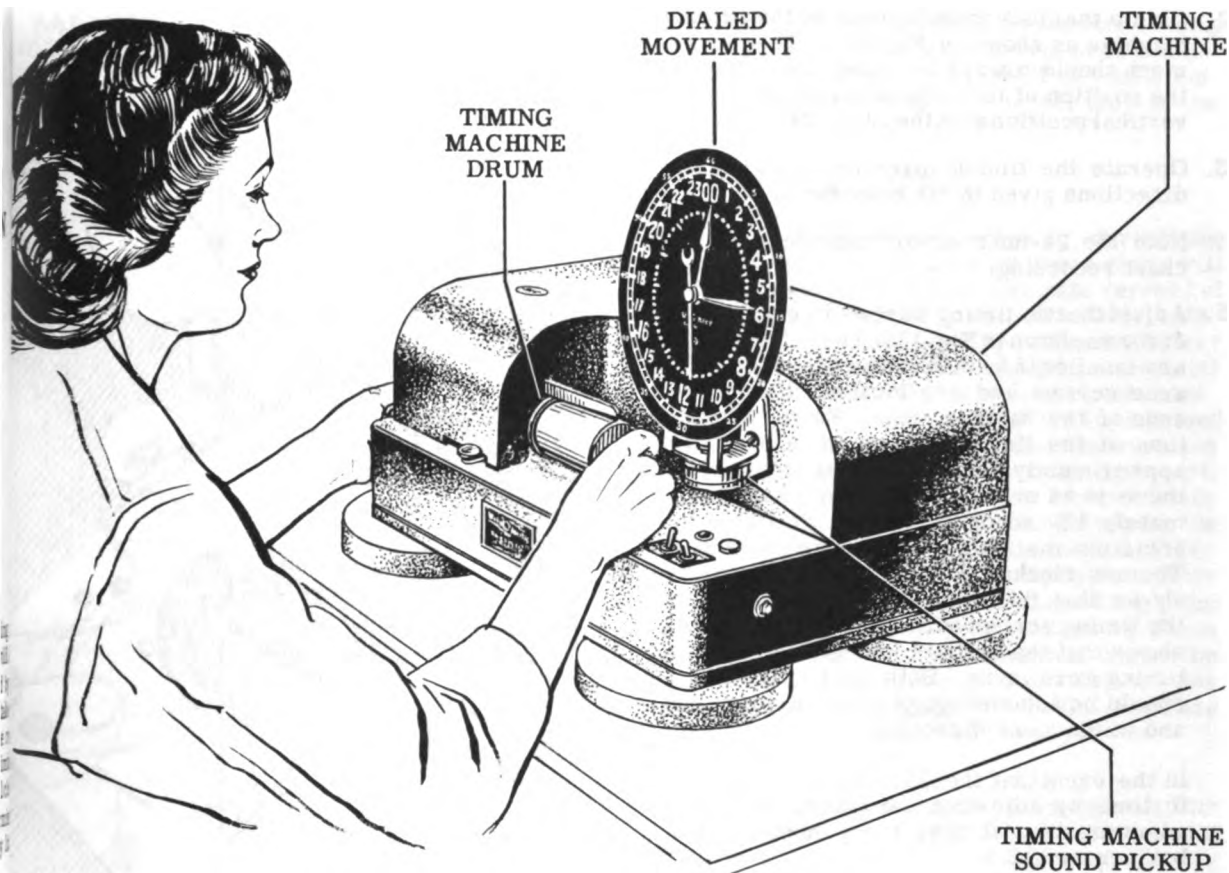

Figure 133
The timing machine shown in Fig. 133 is commonly used for the purpose, although any of the many similar commercially available types may be employed. Timing machines of this kind have a calibrated chart paper which is wrapped around a drum. As a drum turns, the recording mechanism produces a dot on the chart paper each time the clock "ticks." The completed chart consists of a sequence of these dots across the chart.
2. Clamp the clock movement on to the timing machine as shown in Fig. 133. The movement should always be timed and tested in the position of its normal operation—in a vertical position with the 12 (or 24) mark up.